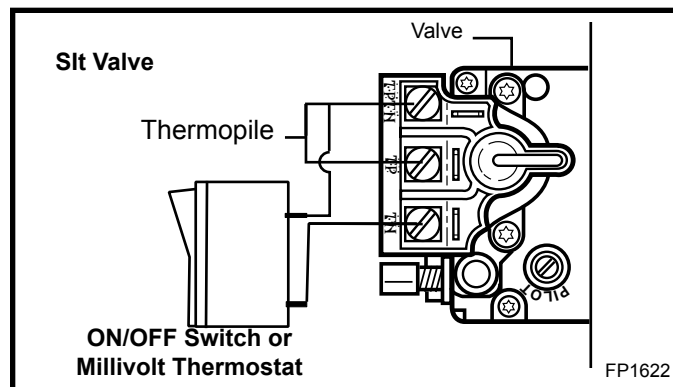

Fig. 53 Install wiring to switch before connecting to valve.
3. Attach wires to valve terminals. (Fig. 53)
2. Connect the thermostat wires to the valve. (Fig. 53)